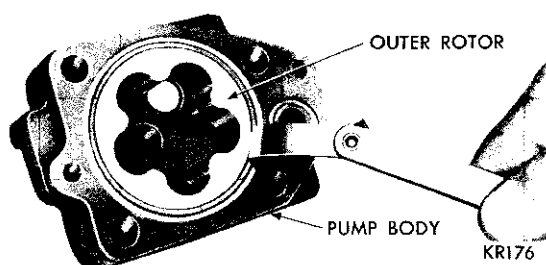
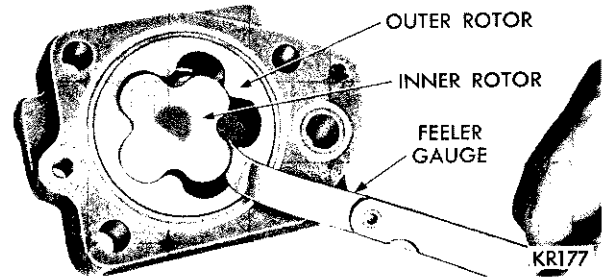

Fig. 62—Measuring Outer Rotor Clearance
Fig. 63—Measuring Clearance Between Rotors
(7) Remove the inner rotor and shaft leaving the outer rotor in the pump cavity.
(8) Press the outer rotor body to one side with the fingers and measure the clearance between the outer rotor and the pump body (Fig. 62).
(9) If the measurement is more than .012 inch, replace the oil pump body.
(10) If the tip clearance between the inner and outer rotor (Fig. 63) is more than .010 inch, replace the inner and outer rotors.